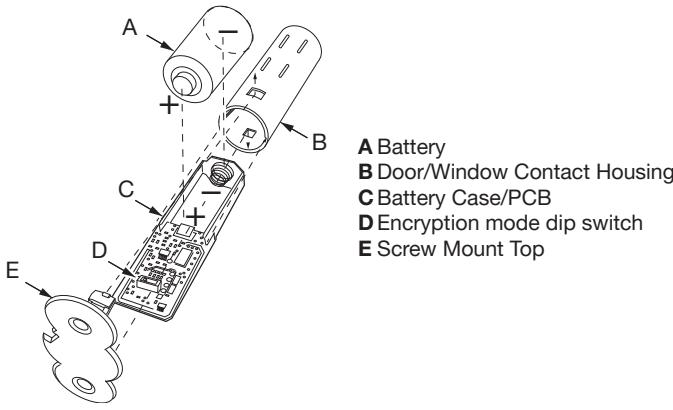

Figure 3 Battery Compartment and Polarity
The sensor is capable of transmitting signals in encrypted mode or unencrypted mode. The mode is set through a switch inside the sensor (see Figure 3).
- 2 Locate the dip switch (see Figure 3) and note the switch setting: **ON** indicates *encrypted*, and **1** is *non-encrypted* mode.